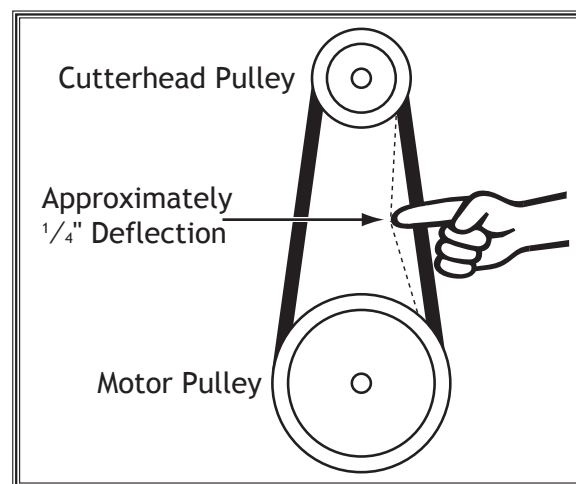

Figure 17. Checking for proper belt tension.
14. Adjust belt tension by applying downward pressure on motor until there is approximately $\frac{1}{4}$ " deflection when belt is pushed with moderate force, as shown in **Figure 17**.